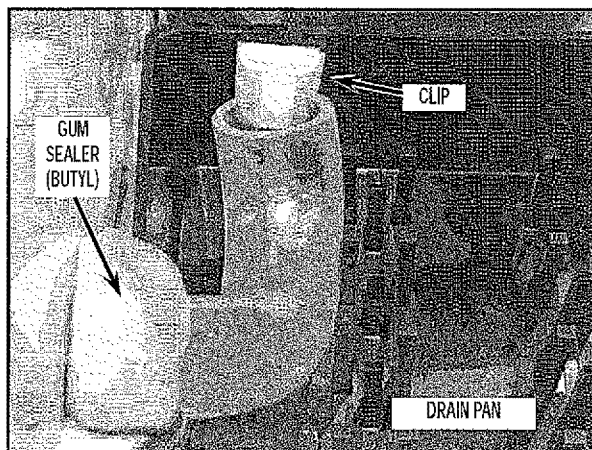

FIGURE 6
13. On the compressor side, make sure the drain line is positioned so the water will remain in the U trap in the drain tube. Install the self adhesive clip supplied with the kit. Once in position, make sure the hose clamp is tight enough to prevent leaking. Do not overtighten clamp. Tighten if necessary. Make sure the gum sealer (Butyl) is sealed around the drain tube to prevent any air leaks. See *Figure 6*.
NOTE: Make sure the clear polyethylene drain tube is installed correctly in the drain pan. The "u" shape should be installed as shown in *Figure 6* to create a liquid seal in the "u" shape.